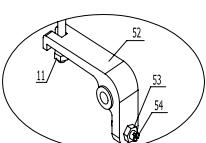

Fig.4
Screw (54) in figure 4 is used for the adjustment of the truck. In the case when the truck body lowers shortly after rising, turn screw
(54) a little in counterclockwise before trying the truck again. In the case that the truck body is unable to lower, turn screw a little in clockwise and then try the truck again till the truck is able to lower normally. The hex nut (53) functions as a lock, so it shall be loosened before adjustment and locked after modification.